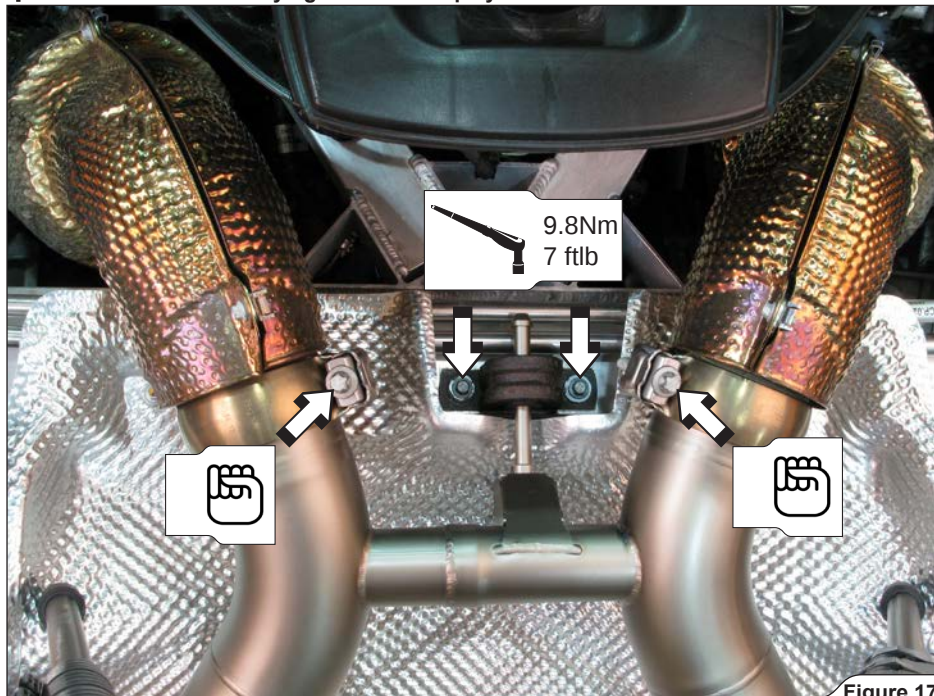

Figure 17
7. Carefully insert the muffler, slide the clamps over the joints and tighten the front rubber bracket onto the chassis (**Figure 17**).